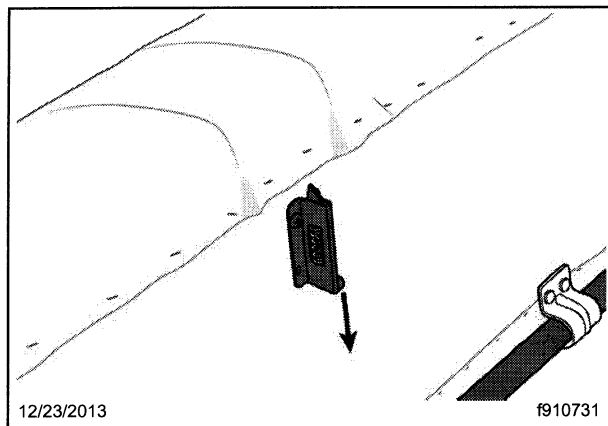

Fig. 4, Releasing the Bottom Cushion Latch
1. Reach under the center of the bottom cushion and release the latch by sliding the locking plate tab toward the front of the seat, as shown in **Fig. 4**.